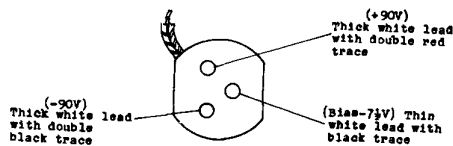

FIG. 2 - TRANSMITTER BATTERY
- (c) Solder leads to terminals of new plug (see wiring diagrams, Figs. 2 and 3).